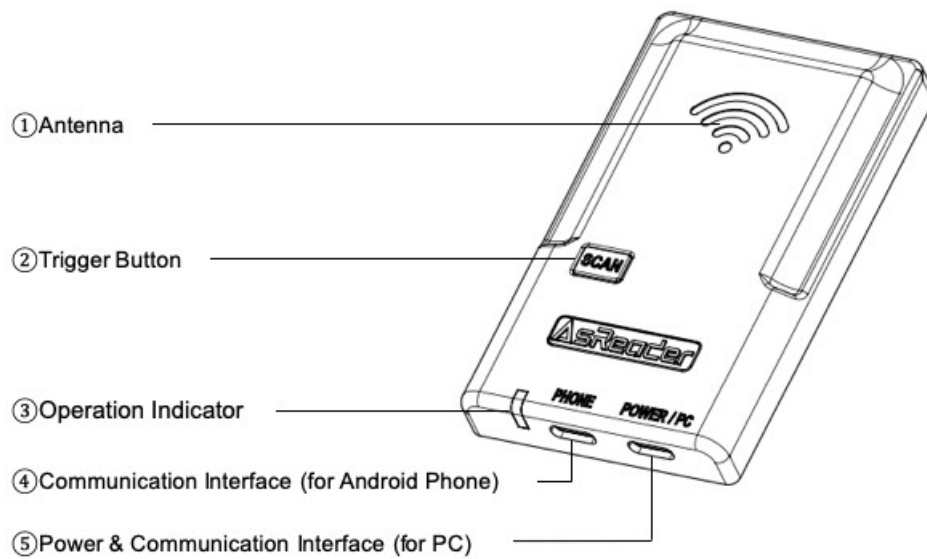

FIG. 1-3-1 Appearance (Front)
Use the USB Type-C data cable to connect the AsReader to the power adapter via the Power & Communication Interface (see FIG. 1-3-1⑤). The Operation Indicator flashes slowly when power on is successful (see FIG. 1-3-1③). And there will be two buzzing prompts.
Put the RFID tags close to the Antenna of the AsReader (see FIG. 1-3-1①). Press the Trigger Button (see FIG. 1-3-1②), and the blue light flashes quickly. The data will be entered at the cursor on the screen of the Android device or PC. Press the Trigger Button again to stop reading.
3. Connect Android phone and the AsReader with USB Type-C to USB Type-C data cable via the Communication Interface (see FIG. 1-3-1④), and it will connect automatically. The Operation Indicator keeps ON when the connection is successful.